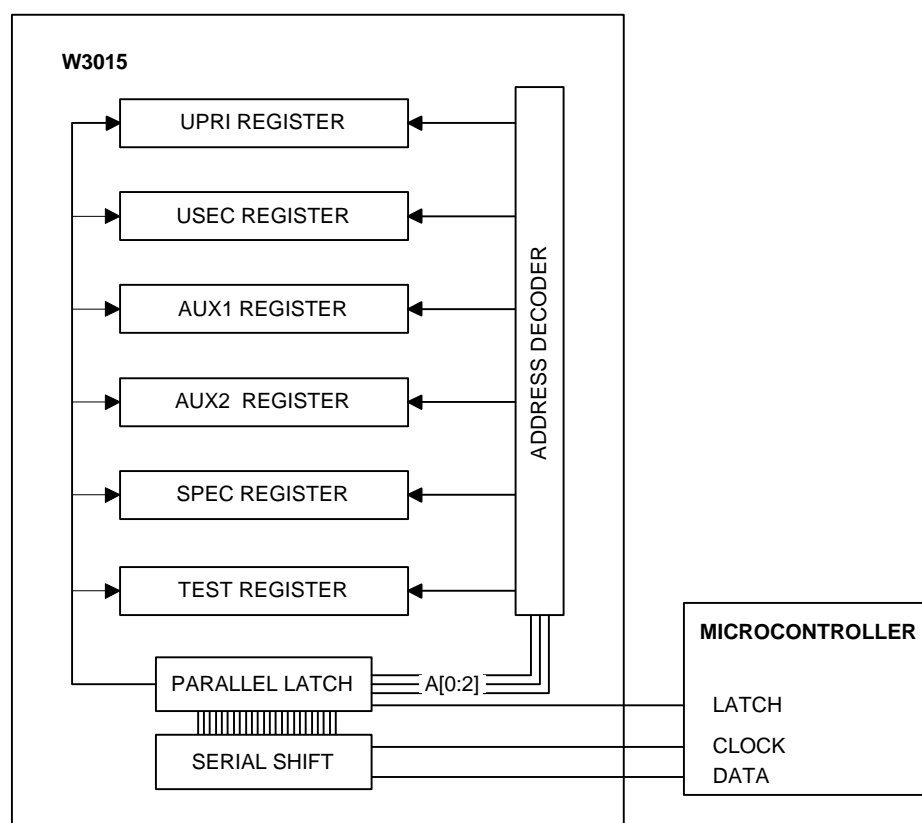

Figure 5. W3015 and Microcontroller Interconnection
See the Serial Bus Programming section, Figure 5, and Table 16 for descriptions of the registers referred to in the tables below.
* See the Serial Bus Programming section, Figure 5, and Table 16 for descriptions of the registers referred to in this table.